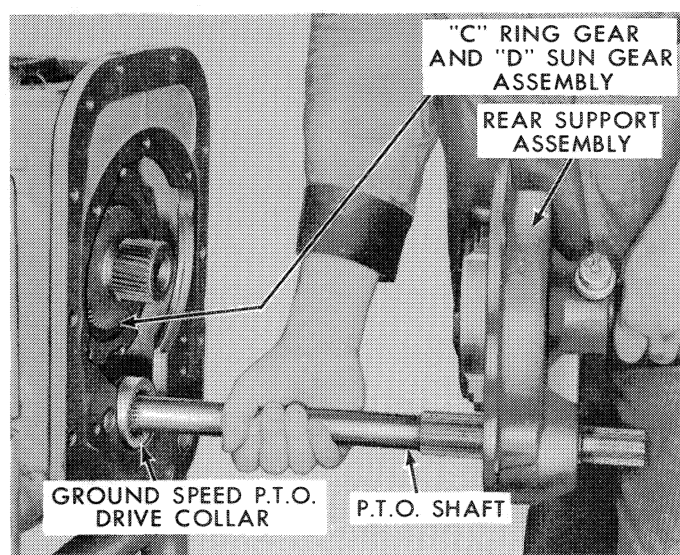

Figure 42
3. Install two 3/8" – 24 NF jack screws in the rear support to separate the support from the case. The P.T.O. shaft is removed with the support. See Figure 42.
4. Remove the ground speed P.T.O. drive collar, shown in Figure 42, from the shifter fork.